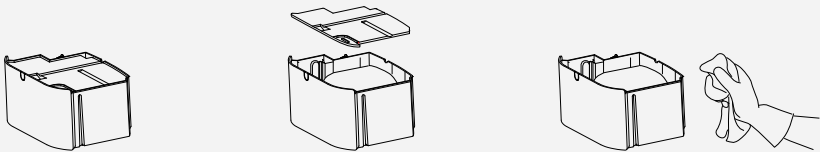

Fig. 8
4. Clean the water tank every few weeks. Remove it from the appliance and take the cover (8) off (Fig. 8). Fill the tank with water with a detergent and wash it. Rinse and dry after washing. Wash the cover (8) in water with a detergent.